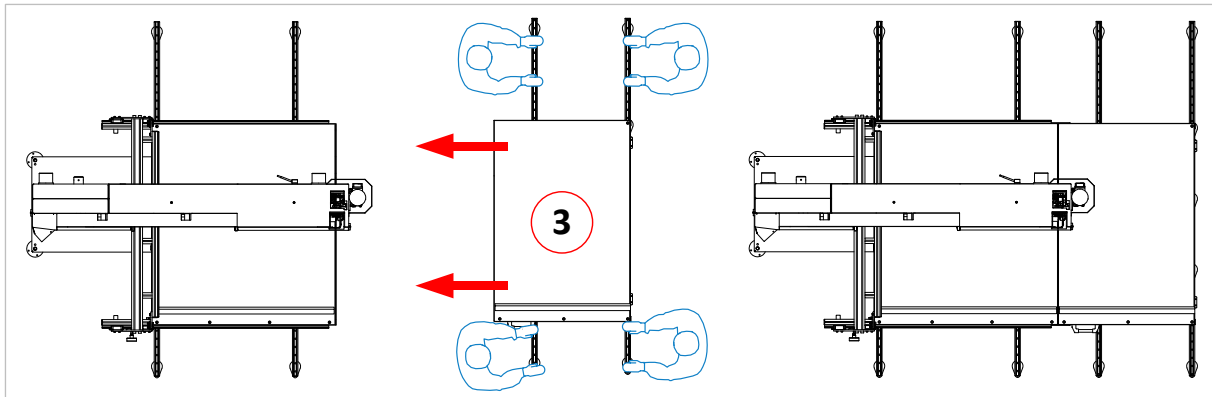

Figure 20: Move the right-hand sliding table (3) to the machine
First, roughly adjust the height of the right sliding table (3) to the height of the left table using the levelling feet. Then, with the help of 4 people or an indoor crane, push the right sliding table half up to the left sliding table (see ⇒ Figure 20, far right).